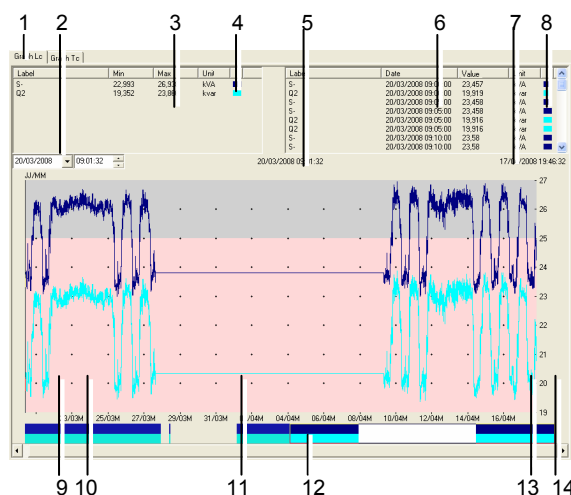

Figure 20-12: example of a display of the load curve graph.
1. In Figure 20-12, ref. 3), right click and click *Property* to display the *LC Graph configuration* window.
4. Click on the graph to move the cursor. Read the corresponding data in (Figure 20-12, ref. 6). The zone Figure 20-12, ref. 2) display the minimum and maximum values.